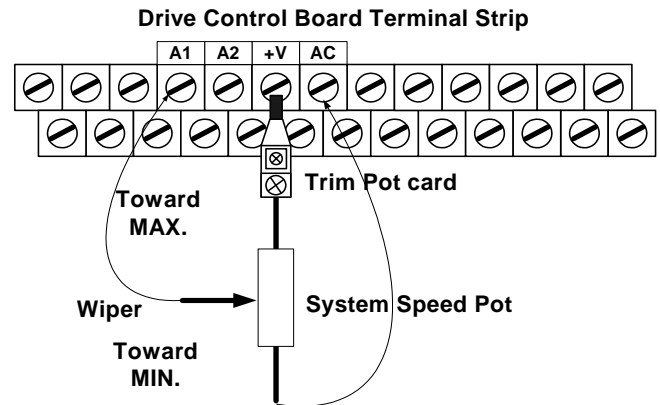
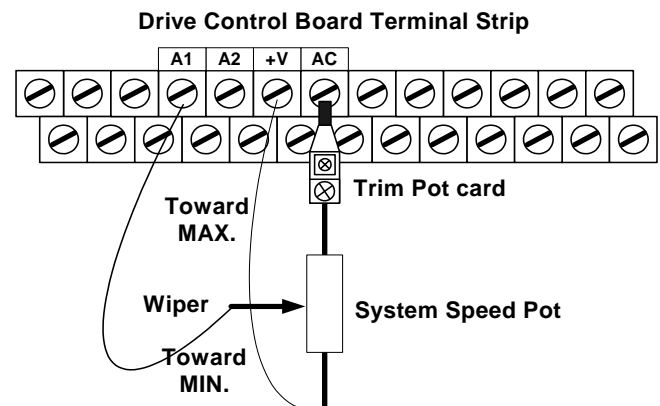

Figure 1. Maximum Speed Delimiter Wiring
Figure 2. Minimum Speed Delimiter Wiring
5. **Option Card Installation:** See Figure 1. Insert the plated board "finger" into the drive control board I/O terminal +V and tighten the screw. Wire as shown.
6. **Wiring:** See Figure 1 or 2 and Table 2. Make wire connections between the trim potentiometer card and external circuits according to your application requirements.
7. **Adjustment:** When the card has been wired in either of the configurations shown in Figures 1 or 2, it can be simply adjusted to obtain the desired speed by setting the trim potentiometer on the card and reading the speed on the drive keypad. To adjust, proceed as follows:
- b) For the Figure 1 wiring configuration, set the system speed pot to maximum and adjust the trim pot to read the desired maximum value on the keypad. For Figure 2, set the system speed pot to minimum and adjust the trim pot to read the desired minimum value on the keypad. This value will be displayed on the keypad as a percentage of the maximum speed.